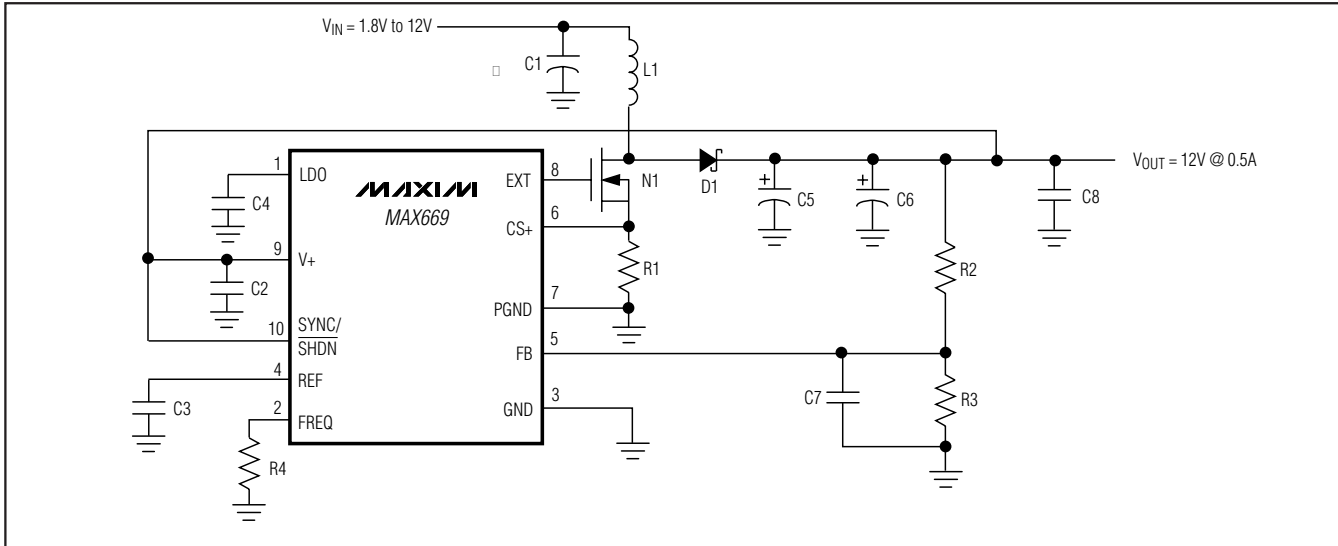
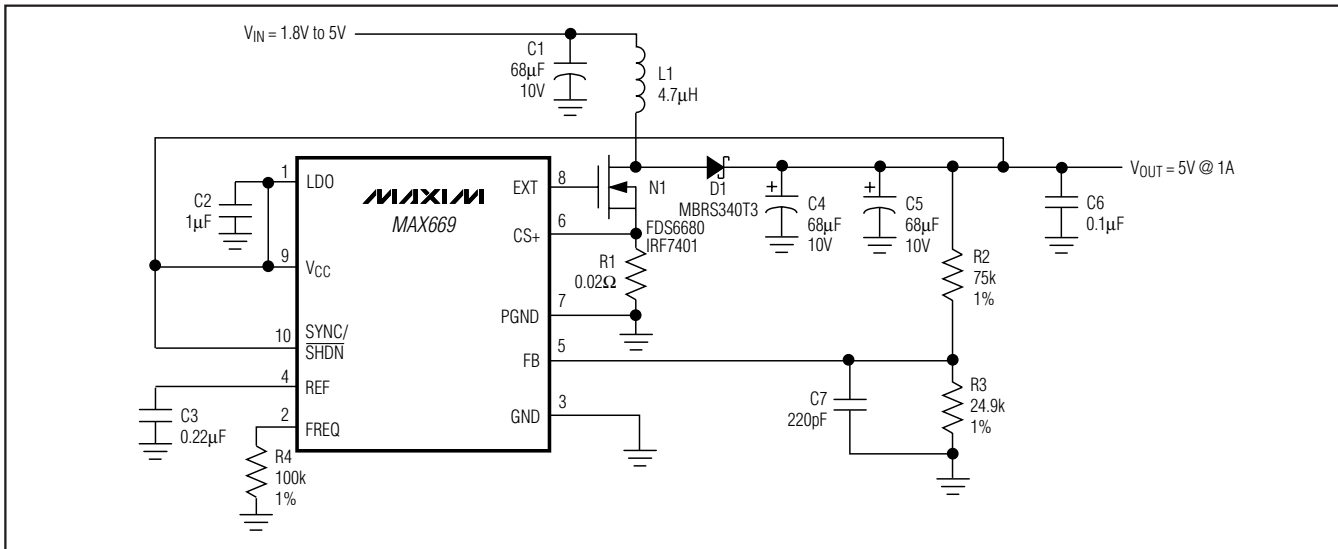

Figure 2. MAX669 High-Voltage Bootstrapped Configuration
Figure 3. MAX669 Low-Voltage Bootstrapped Configuration
(Circuits of Figures 2, 3, 4, and 5; $T_A = +25^\circ\text{C}$; unless otherwise noted.)
With V_{CC} connected to V_{OUT} , as in Figure 2, EXT voltage swing is 5V when V_{CC} is 5.2V or more, and $V_{CC} - 0.2V$ when V_{CC} is less than 5.2V. If the output voltage does not exceed 5.5V, the on-chip regulator can be disabled by connecting V_{CC} to LDO (Figure 3). This eliminates the LDO forward drop and supplies maximum gate drive to the external FET.
* For standard step-up DC-DC circuits (as in Figures 2, 3, 4, and 5), regulation cannot be maintained if V_{IN} exceeds V_{OUT}. SEPIC and transformer-based circuits do not have this limitation.
The output voltage is set by two external resistors (R2 and R3, Figures 2, 3, 4, and 5). First select a value for R3 in the 10k Ω to 1M Ω range. R2 is then given by: